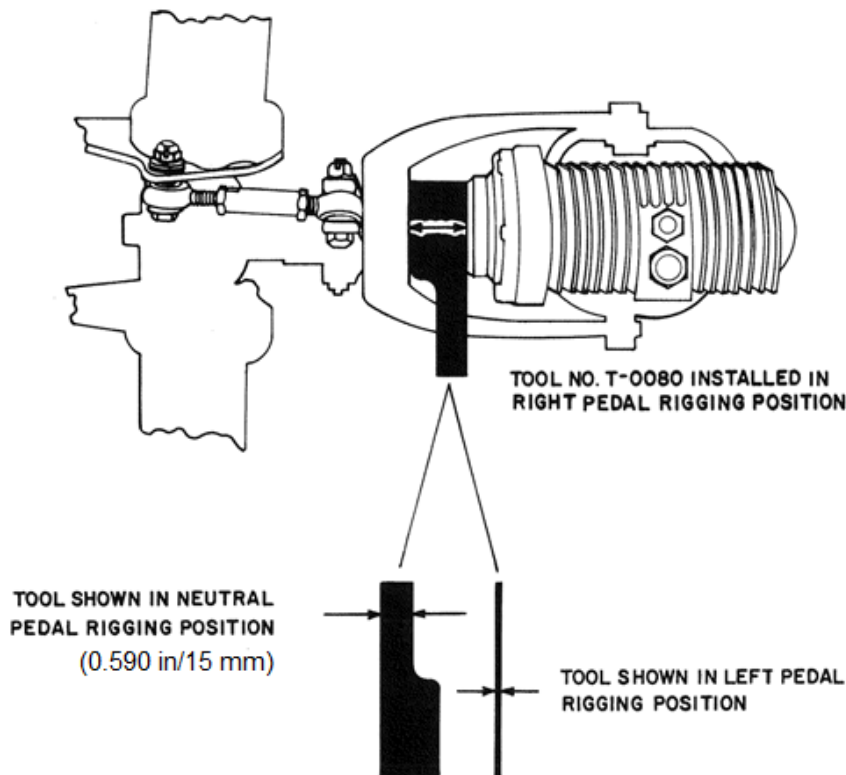

Figure 10-26. Rigging Tool T-0080 Installation
- (1) Install the tail rotor rigging tool T-0080 (0.590 in/15 mm side) between the bearing retainer and the output shaft seal retainer to hold the tail rotor pitch controls in the neutral position (Fig. 10-26). Secure the pitch control assembly in this position by installing wooden wedges between the pitch control assembly and the transmission on the right side of the transmission (Fig. 10-27).
- (2) Verify that the pilot and co-pilot pedals are in alignment to each other.
- (3) If the pedals are not even, adjust the tension as follows:
- (1) Verify the cable tension is set (Para. 10-7.A).
- (2) If required, remove the wraparound cowl and baggage box, if necessary.
- (3) Remove the seat cushions, seat deck (Para. 8-8.A), and the left floor panel.
- (4) Install the tail rotor rigging tool T-0080 (0.590 in/15 mm side) between the bearing retainer and the output shaft seal retainer to hold the tail rotor pitch controls in the neutral position (Fig. 10-26). Secure the pitch control assembly in this position by installing wooden wedges between the pitch control assembly and the transmission on the right side of the transmission (Fig. 10-27).
- (5) Verify that the pedals are in alignment. If not aligned, adjust the cable tension in accordance with Para. 10-7.A.
- (6) Remove the rigging tool T-0080 and wedges from the tail rotor transmission, then cycle the pedals and look for interference between the pitch control assembly pivot brackets and the tail rotor transmission.
- (7) Move the pedals to the full left position. Insert the tail rotor rigging tool T-0080 (narrow profile) between the output shaft seal housing and the face of the brass bushing in the pitch control assembly (Fig. 10-26). The rigging tool should just fit in when the pedals contact the left stop. Adjust the "left pedal adjustment stop" until the pedal and the control assembly make contact at the same time (Fig. 10-28).
- (8) Move the control pedals to the full right position. Insert the tail rotor rigging tool T-0080 (widest profile) between the output shaft seal housing and the face of the brass bushing in the pitch control assembly (Fig. 10-26). The rigging tool should just fit in when the pedals contact the right stop. Adjust the "right pedal adjustment stop" until the pedal and the control assembly make contact at the same time (Fig. 10-28).
- (9) Install the wraparound cowl and the baggage box, if removed.
- (10) Install the left floor panel, seat deck (Para. 8-8.D), and seat cushions.
(i) Install the tail rotor rigging tool T-0080 (0.590 in/15 mm) between the bearing retainer and the output shaft seal retainer to hold the tail rotor pitch controls in the neutral position (Fig. 10-26). Secure the pitch control assembly in this position by installing wooden wedges between the pitch control assembly and the transmission on the right side of the transmission (Fig. 10-27).
- (i) Install the tail rotor rigging tool T-0080 (0.590 in/15 mm) between the bearing retainer and the output shaft seal retainer to hold the tail rotor pitch controls in the neutral position (Fig. 10-26). Secure the pitch control assembly in this position by installing wooden wedges between the pitch control assembly and the transmission on the right side of the transmission (Fig. 10-27).